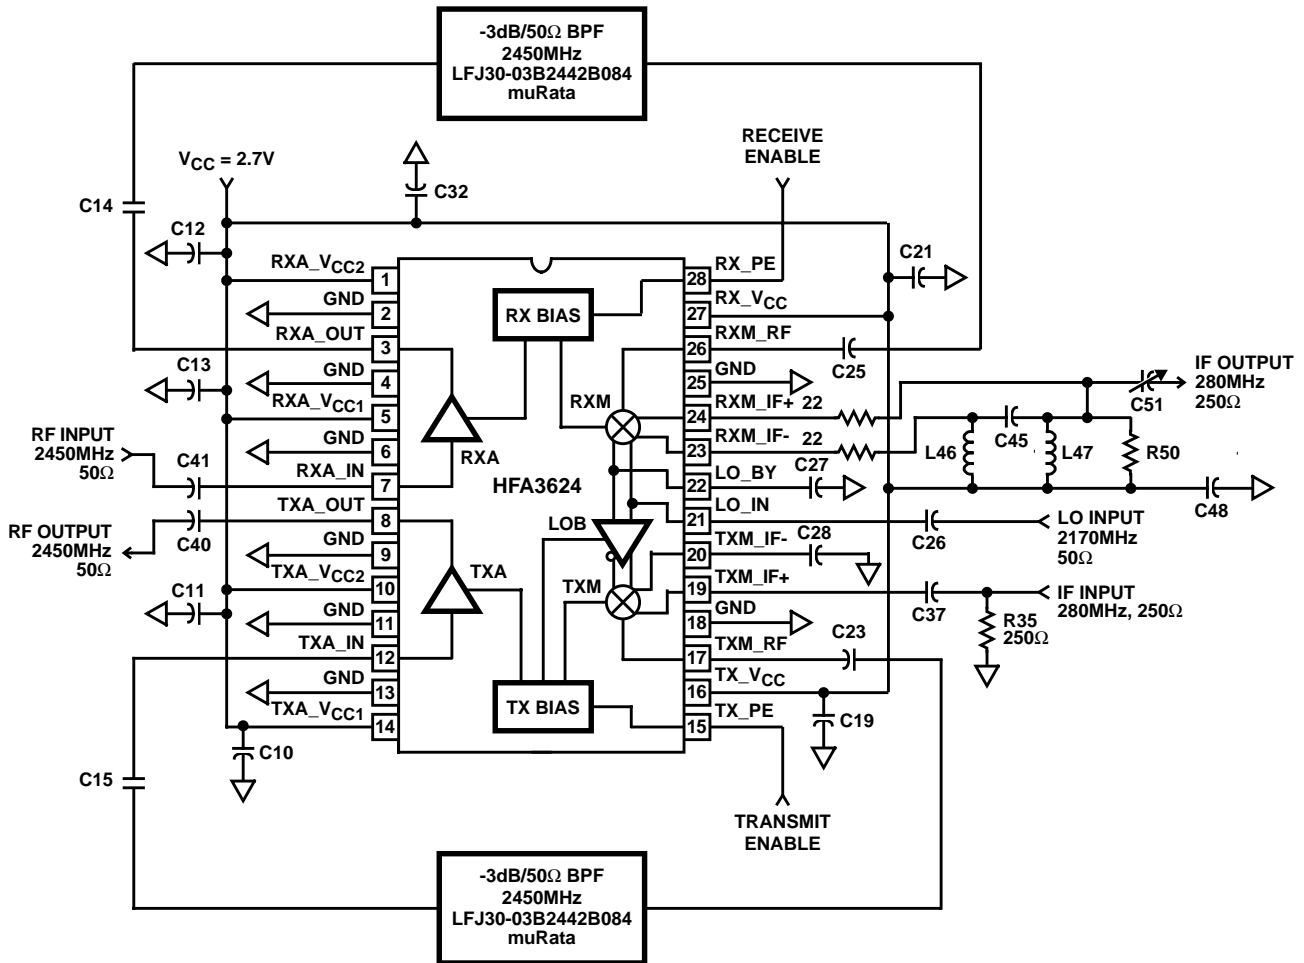

FIGURE 2. DIFFERENTIAL TO SINGLE ENDED IF OUTPUT TRANSLATION WITH 250Ω IF IMPEDANCE
- See Figure 2 for Typical Application Circuit.